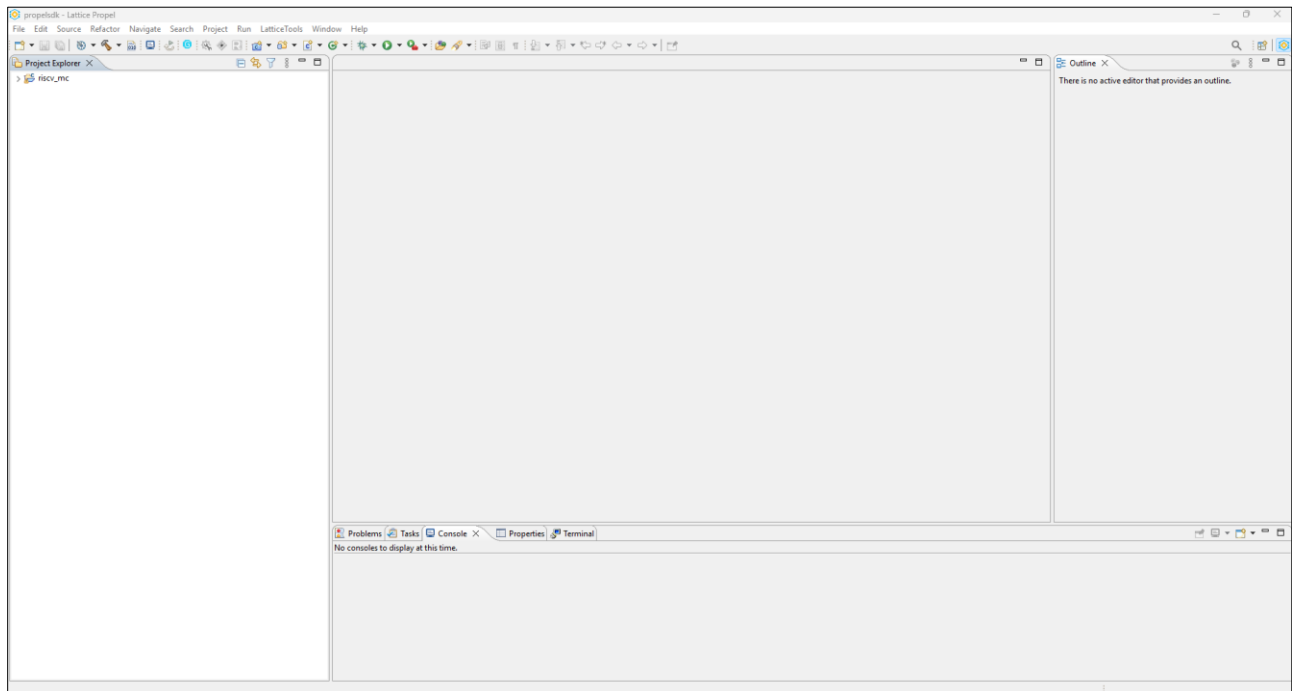

Figure 5.4. Propel SDK Project Opened in Lattice Propel SDK
6. The Propel SDK project opens and you can see the riscv_mc project (Figure 5.4).